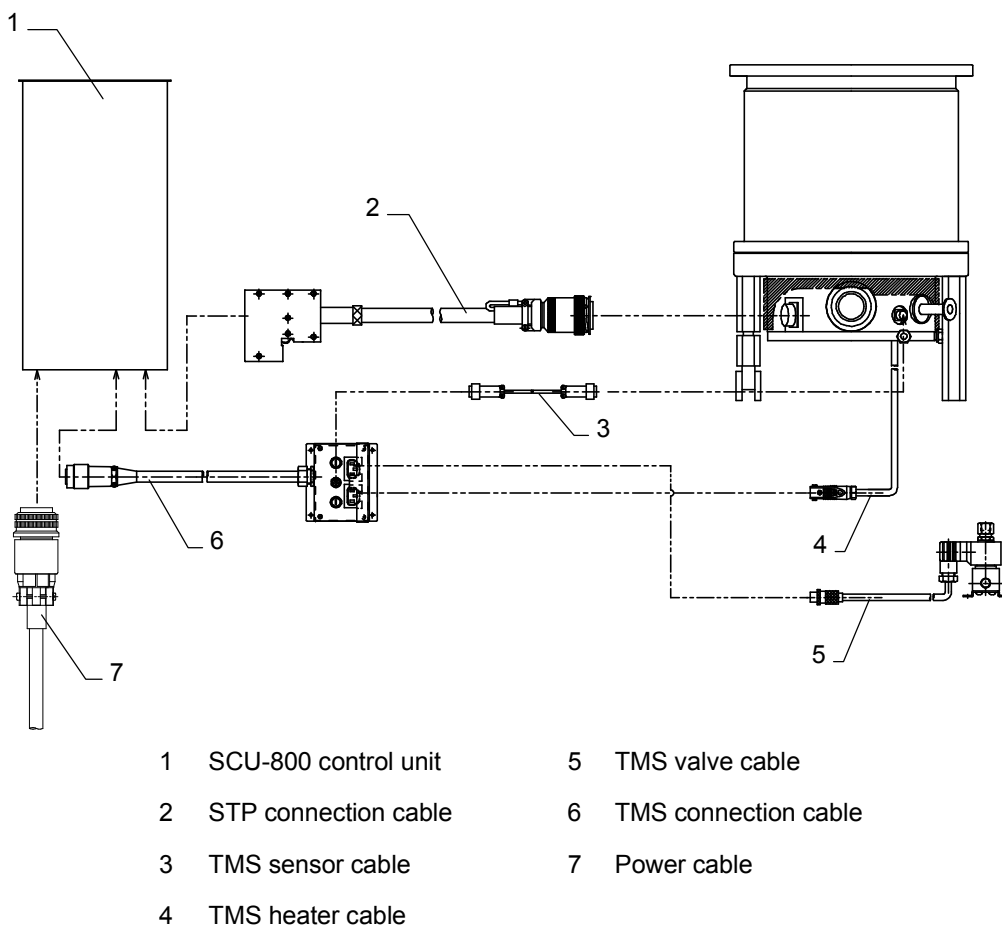

Figure 8 - Configuration of the STP pump with the TMS
*Note: Figure 8 shows a typical TMS system installation. System connections and cables differ according to the type of pump connected to the SCU-800. Refer to the STP pump Instruction Manual (A) and (B) for full details of connection cables and system connections.*